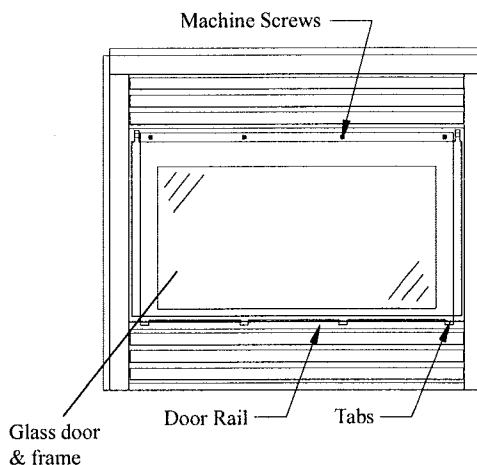

Figure 23b. Installing Glass Door.
To install/remove the glass door simply attach/remove the four (4) machine screws, align tabs at the bottom of the door with the slots in the bottom door rail (See figure 23b). Ensure that a good seal is maintained.